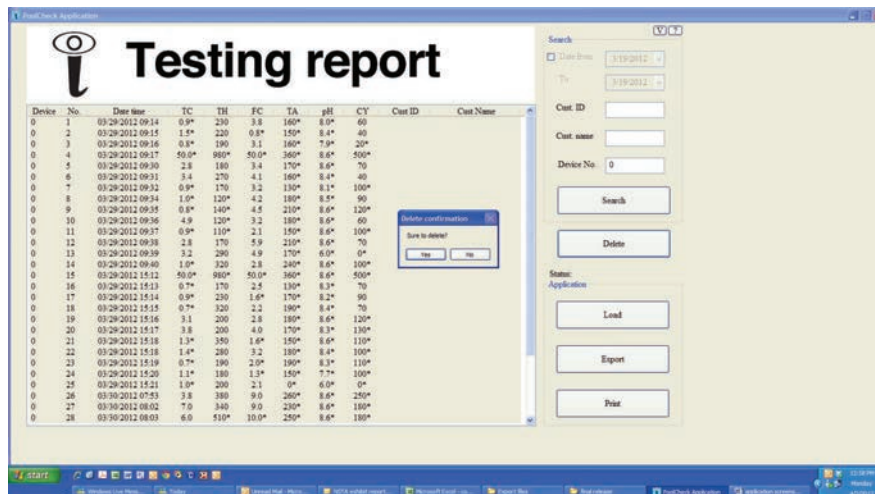

Figure 15 - Delete confirmation dialog box
- A “Sure to delete?” confirmation dialog box will appear (Fig 15).